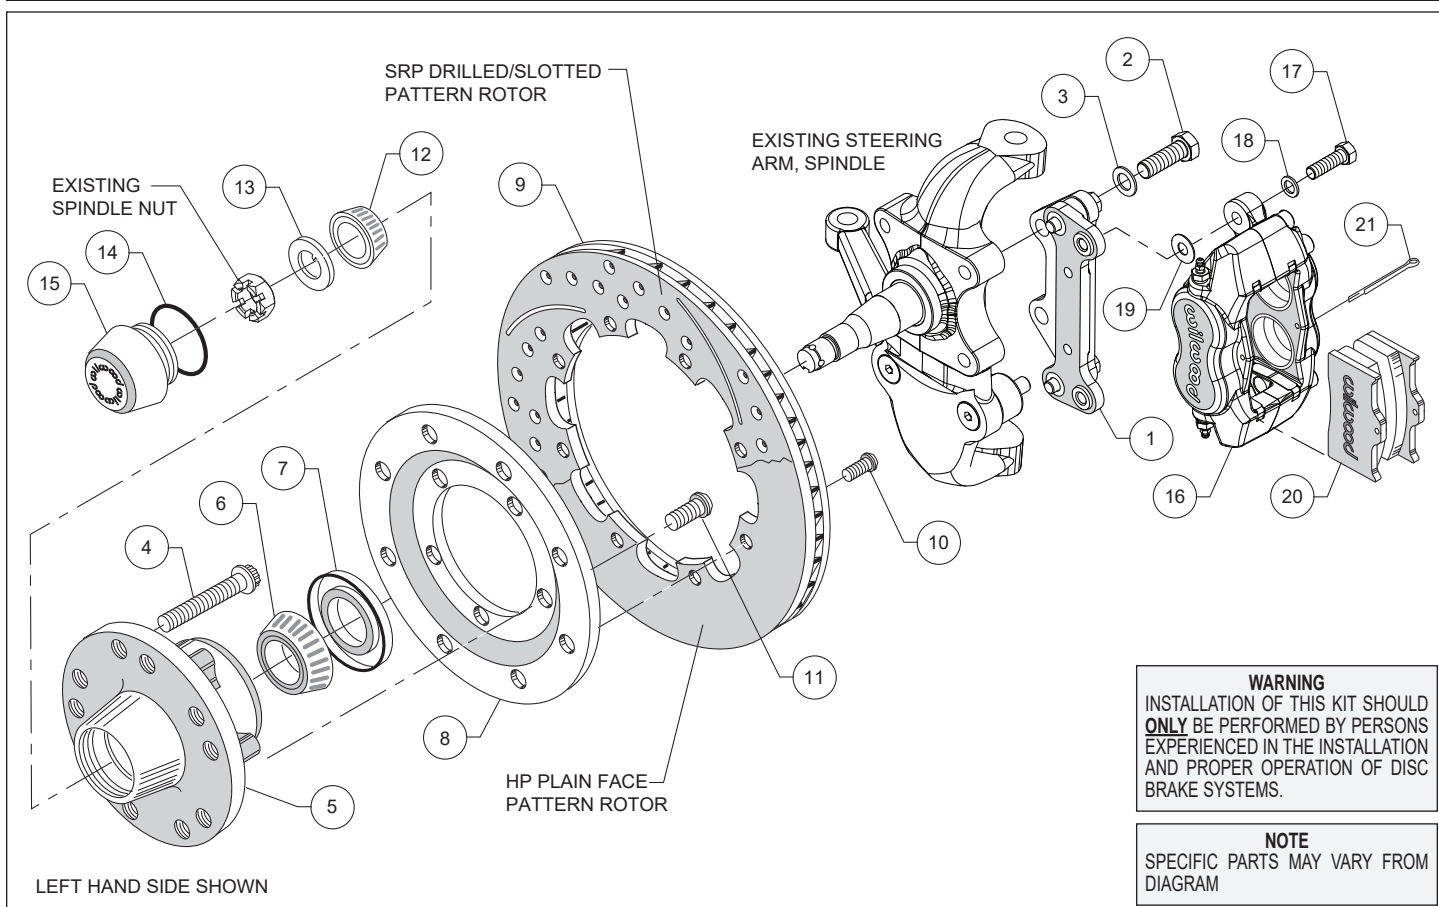
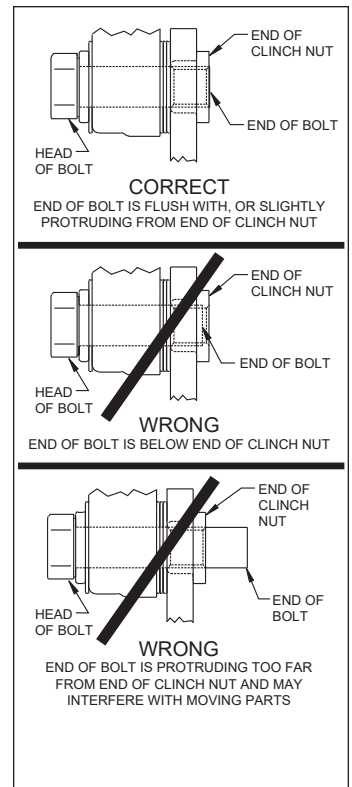

Figure 1. Typical Installation Configuration
Figure 3. Clinch Nut Engagement Diagram
Assembly Instructions (numbers in parenthesis refer to the parts list on the preceding page, and Figure 1): **CAUTION:** All mounting bolts must fully engage insert nuts. Be sure to check that all bolts are either flush or protruding through flanged side of clinch nut after shimming, Figure 3.
•Align caliper mounting bracket (1) on the backside of the spindle and attach using bolts (2) and washers (3), as shown in Figure 1 and Photo 1. Temporarily tighten the mounting bolts. Ensure that the flanged heads of the clinch nuts in the bracket are facing outboard, Photo 1. **NOTE:** The bracket must fit squarely against the mounting points on the spindle. Inspect for interference from casting irregularities, machining ridges, burrs, etc. Remove bolts one at a time, apply red *Loctite*® 271 to threads, and torque to 90 ft-lb.
- Orient the rotor (9) and the rotor adapter (8) as shown in Figure 1 and Photo 4. Attach the rotor to the adapter using bolts (10). Using an alternating sequence, apply red *Loctite*® 271 to the threads, and torque to 25 ft-lb.
- Mount the adapter/rotor assembly (8 and 9) to the hub (5) using bolts (11), as shown in Figure 1 and Photo 5. Using an alternating sequence, apply red *Loctite*® 271 to the threads, and torque to 45 ft-lb.
- Pack the small outer bearing cone (12) with high temperature disc brake bearing grease and install into hub (5). Slide the hub/rotor assembly onto the spindle. Secure using spindle washer (13) and OEM spindle nut, Photo 6. Bearing adjustment: Tighten the nut while turning the hub. When there is a slight bind on the bearings, they are seated correctly. Back the nut off about 1/6 to 1/4 of a turn, or sufficiently to allow .001" to .007" end play. **WARNING:** Failure to back off adjusting nut could cause bearing to run hot and be damaged, which could cause the wheel to lock or come off. Install saved OEM nut lock (if any) and a new cotter pin (not included).
- Screw dust cap (15) into hub (5), Photo 7. Friction created by the o-ring (14) on the dust cap keeps it from unscrewing. **NOTE:** The O.D. of the existing OEM spindle washer may be larger than the I.D. of the dust cap not allowing it to seat against the hub face. Therefore, use the spindle washer (13) supplied with the kit instead of the OEM washer.
- NOTE:** Please reference the caution statement at the beginning of the assembly instructions. Mount the caliper (16) onto the caliper mounting bracket (1) using bolts (17) and washers (18), as shown in Figure 1. Initially place one .035" thick shim (19) on each bolt between the caliper and the bracket, Photo 8. Temporarily tighten the mounting bolts (17) and view the rotor (9) through the top opening of the caliper. The rotor should be centered in the caliper, Photo 9. If not, adjust by adding or subtracting shims (19) between the bracket and the caliper. Always use the same amount of shims on each of the two mounting bolts. **NOTE:** The end of each bolt must be flush with or slightly protruding from the head of the clinch nut, as shown in Figure 3. If necessary place spare shims (19) between washer (18) and caliper mounting ear to achieve the proper clinch nut engagement. Once the caliper alignment and clinch nut engagement are correct, remove the bolts (17) one at a time, apply red *Loctite*® 271 to bolt threads, and torque to 40 ft-lb.